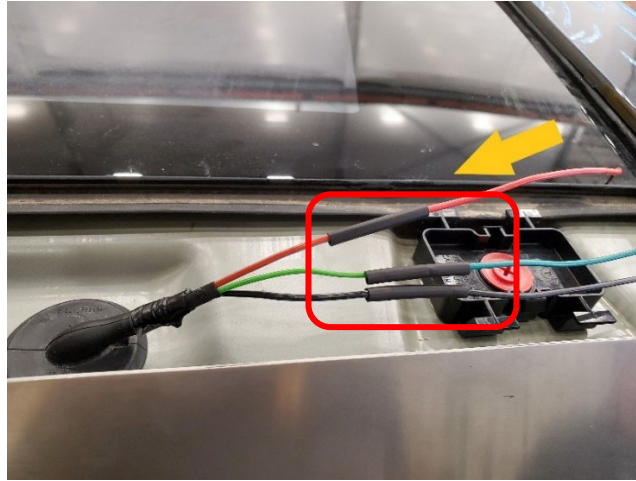

Figure 17 – Heat shrink tube position (1 of 2)
19. Slide the heat shrink tubes (x3) over the roof accessory jumper harness and the off road lightbar jumper connections (x3), aligning the center of the tubes with the center of the connections (Figure 17).